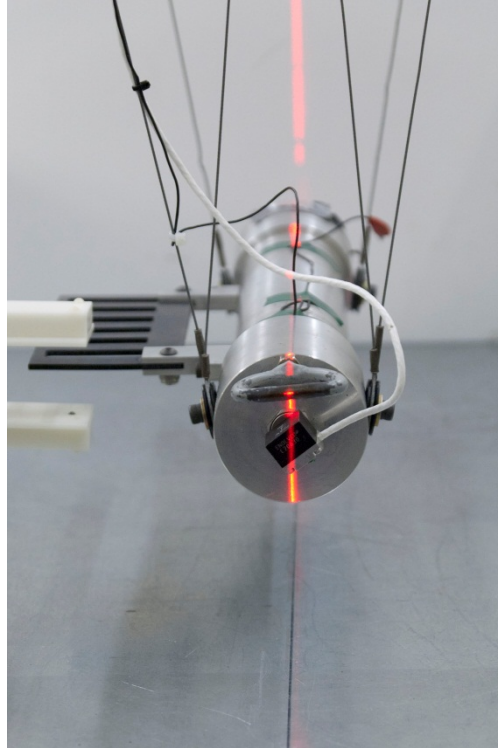

Figure 79. Align laser with probe centerline and pendulum path reference line on support surface
- Align the laser vertically along the back of the probe, along the top of the centerline of the probe (Figure 79), and along the probe path reference line on the support surface. Leave the laser in this position for the duration of the setup.